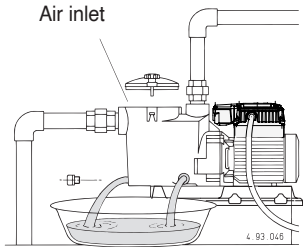

Fig. 4 Draining
**If in the event of prolonged standstill periods or if freezing may be expected, drain the pump completely** by removing the two thumbscrew drain plugs with reusable O-ring gaskets (fig. 4).
Drain the pump casing before dismantling (see fig. 4 and section 15.). For dismantling and reassembly